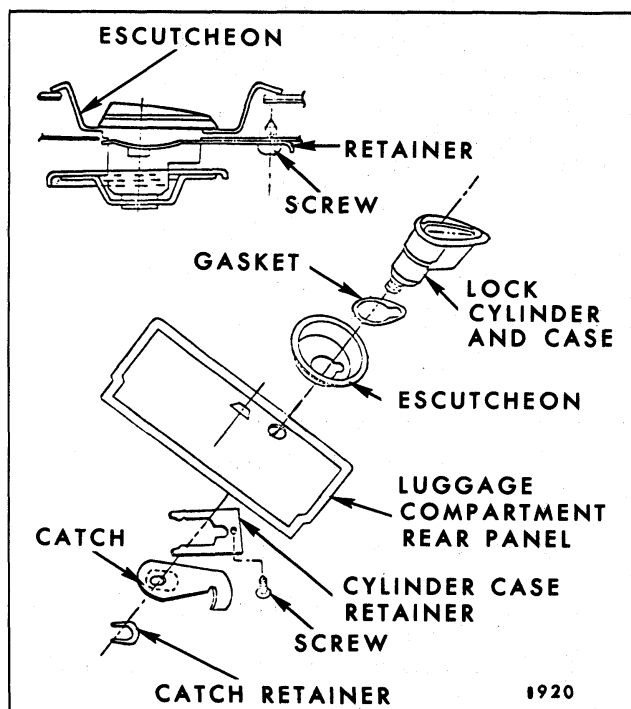

Fig. 9-93-Luggage Compartment Lock - "A" Body Styles
2. On underside of luggage compartment rear panel remove catch retainer and catch from lock cylinder case, then turn lock cylinder with key until cylinder can be removed from case (Fig. 9-93).
2. On underside of luggage compartment rear panel, remove catch retainer and catch (Fig. 9-93).
3. Remove lock cylinder case retainer screw and retainer; then remove lock cylinder and case, gasket and escutcheon from panel (Fig. 9-93).